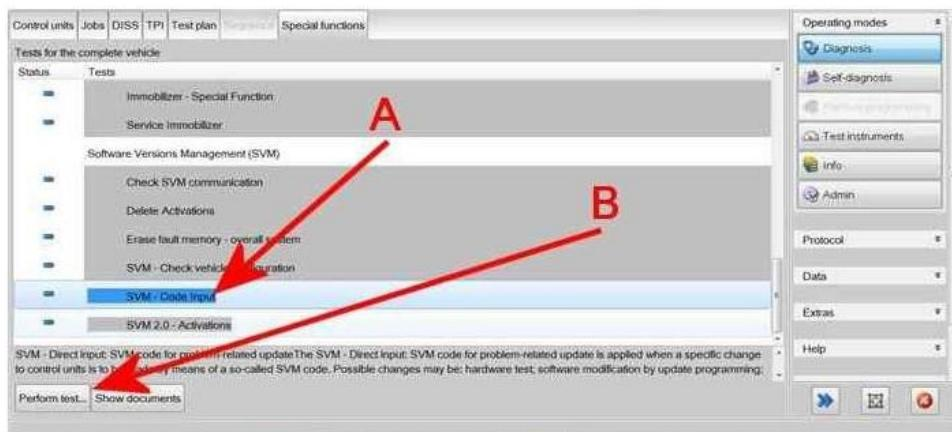

Figure 1
- Because of the highest transmission stability you **MUST** use the diagnosis interface VAS 6154 (WiFi diagnostic tool) **ONLY** in USB operation or the cable-connected VAS 5055 for the reprogramming (updating) of control units. If these units are not available, the diagnosis interface VAS 5054 (A) can also be used in USB mode
- Within the Special functions tab select SVM - Code input then select Perform test (Figure 1)